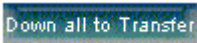

Figure 3-16. Task Information -2
10. Click “OK” button to move the stage Z. After the following Task Information -2 appears (Figure 3-16), retract the **VersaPrep Transfer Arm**.
7. Click “OK” button to move the stage Z. After the following Task Information -2 (Figure 3-16) appears, retract the **Prep Transfer Arm**.